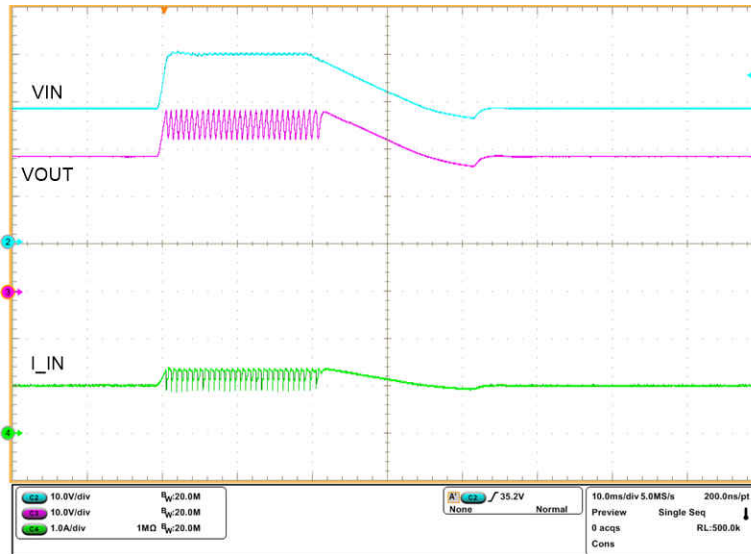

Figure 4-9. Overvoltage Clamp Response
3. Now apply transient input voltage (28 V to 40 V) for 20 ms and verify the Overvoltage clamp response as Figure 4-9 shows.